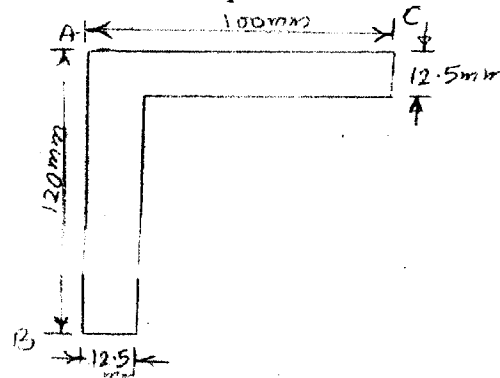

Fig. Q6 (c)
c. An unequal angle section shown in figure Q6 (c) is used as a simply supported beam over a span of 2 m and uniformly distributed load of 10 kN/m , inclusive of its own weight. Determine the maximum tensile and compressive stresses in the section. (10 Marks)